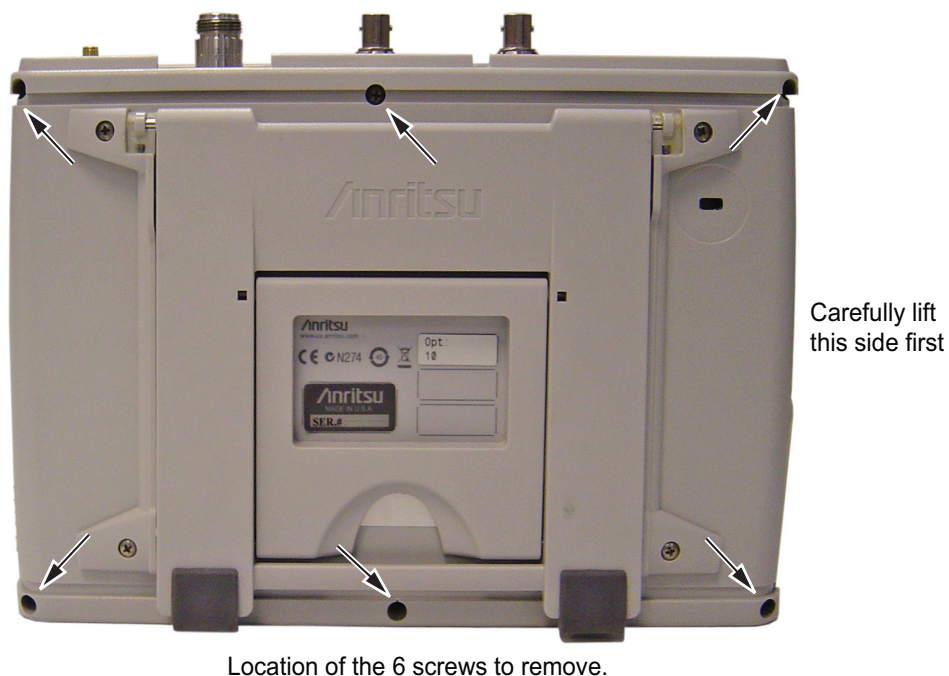

Figure 5-2. Remove the Six Screws
4. Use a Phillips screwdriver to remove the six screws securing the two halves of the Spectrum Master case together (Figure 5-2).